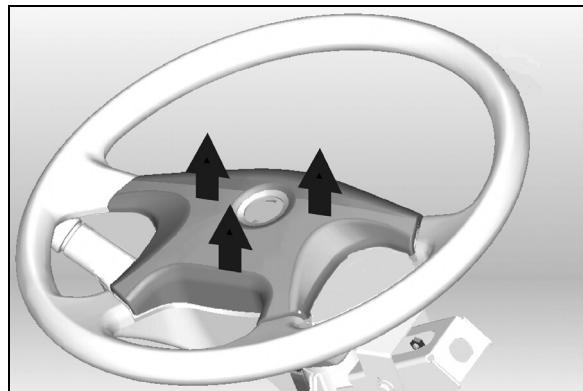

FIGURE 9: REMOVING THE HORN PAD
- Pull the horn pad straight up gently to detach it from the steering wheel (Fig. 9).